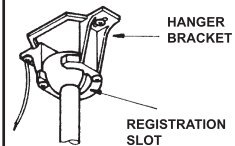

Fig.12
Step 6. Now lift the motor assembly into position and place the hanger ball into hanger ball into hanger bracket. Rotate until the check groove has dropped into the registration slot and sits firmly (Fig. 12). Rod should not rotate if this is done correctly.